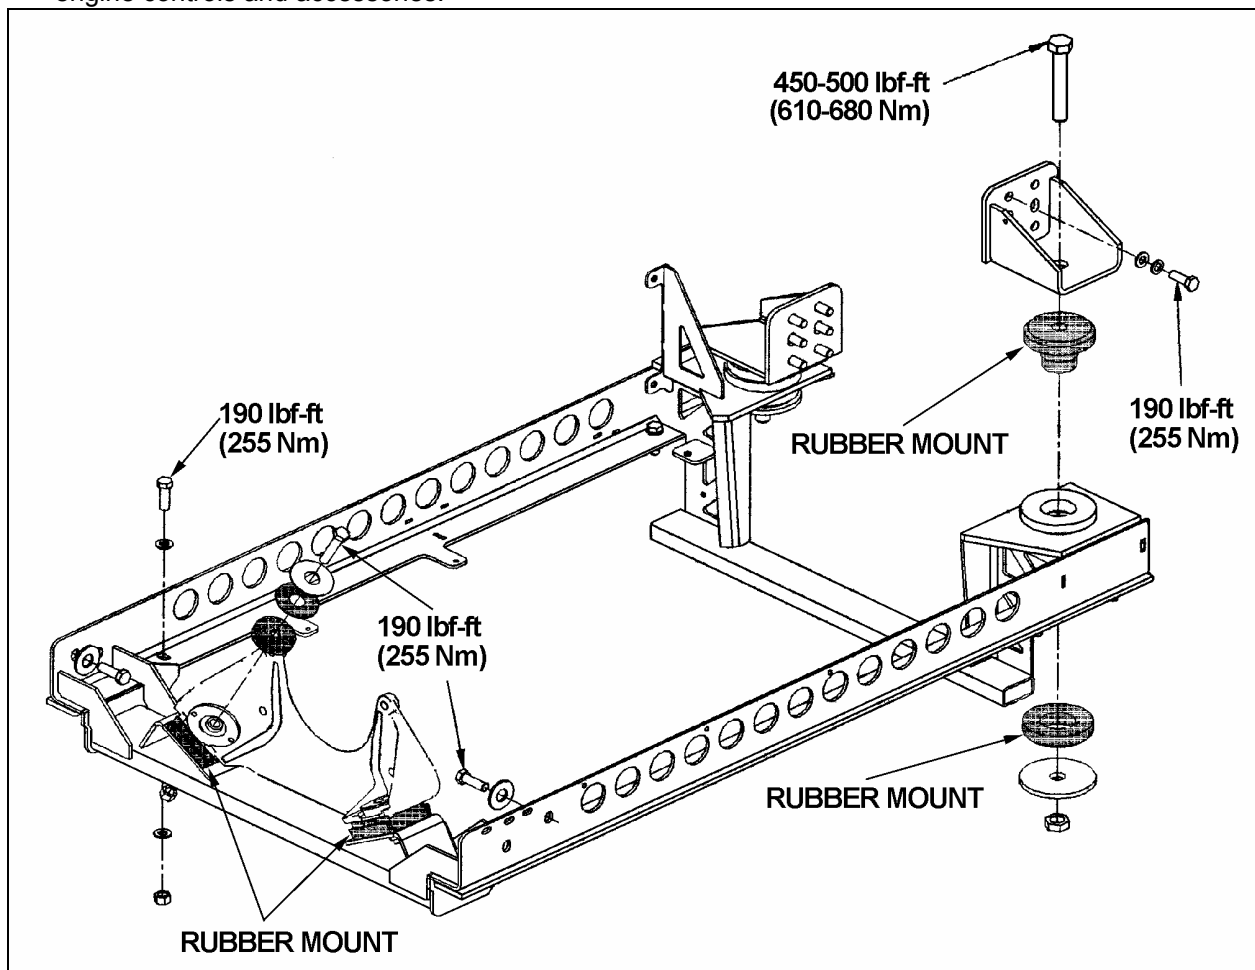

FIGURE 23: POWER PLANT CRADLE INSTALLATION
4. Locate the A/C compressor drive belt tensioner control valve (Fig. 23). Turn handle clockwise in order to release pressure in belt-tensioner air bellows and loosen belts. Remove the belt.
33. Remove the six retaining bolts, washers and nuts securing the power plant cradle to the vehicle rear subframe (Fig. 23).
Two rubber mounts are used at the front of the engine while two others are mounted on each side of the flywheel housing (Fig. 23).